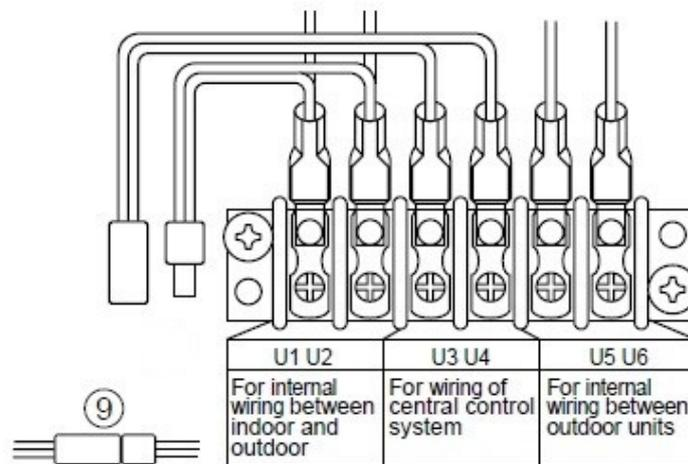

Fig 4
*U1, U2 & U3, U4 is Disconnected, (Factory default DISCONNECTED) (Fig 4)*
- 4) Confirm that the “White Link Plug & Socket” connected between U1 & U3 / U2 & U4 on the “Lead” outdoor unit is **DISCONNECTED**. Refer to Fig 4